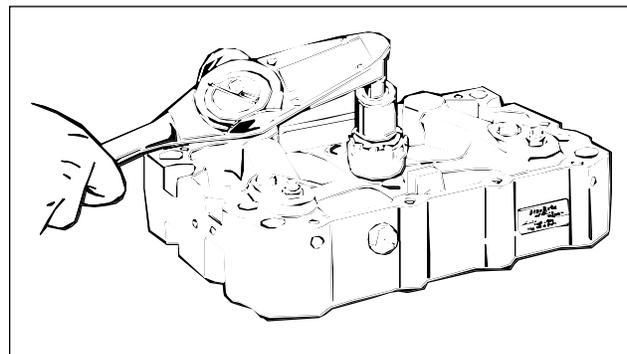

FIG. 19
6. Be sure the seals are seated properly and carefully screw the solenoid into the housing without unseating the seals. Torque the valve to 15 lb.-ft. (20 N•m) (Fig. 19). Be careful not to twist the seals while installing.